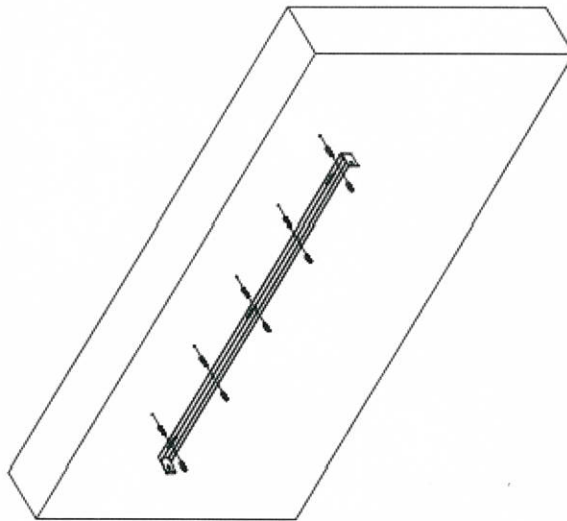

Fig.2
- For optimum viewing, mark the top four screws (fixing positions on the wall in accordance with the recommended fixing dimension; See Fig.2
racket(see Fig.2) and is sitting centrally. This process should be carried out by